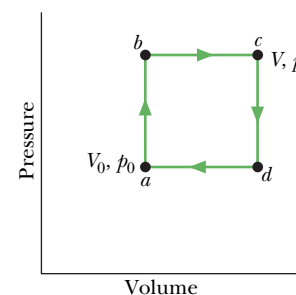

Fig. 20-27 Problem 29.
•29 **GO** Figure 20-27 shows a reversible cycle through which 1.00 mol of a monatomic ideal gas is taken. Assume that  $p = 2p_0$ ,  $V = 2V_0$ ,  $p_0 = 1.01 \times 10^5\text{ Pa}$ , and  $V_0 = 0.0225\text{ m}^3$ . Calculate (a) the work done during the cycle, (b) the energy added as heat during stroke  $abc$ , and (c) the efficiency of the cycle. (d) What is the efficiency of a Carnot engine operating between the highest and lowest temperatures that occur in the cycle? (e) Is this greater than or less than the efficiency calculated in (c)?